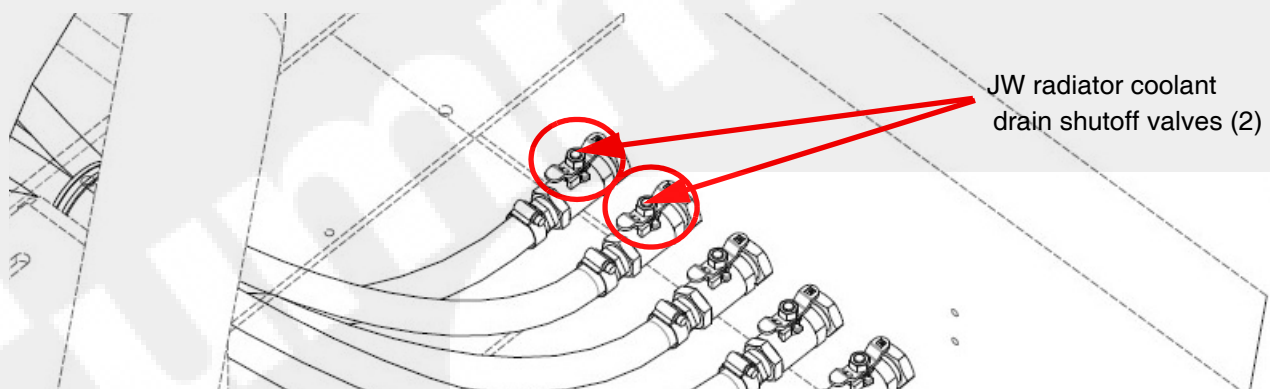

Figure 7-12 GenSet JW radiator coolant drain shut-off valves (GenSet right side)
2. As shown in Figure 7-12, check that the JW radiator coolant drain shut-off valves are closed. Turn the tee handle so that it is perpendicular to the drain line. The JW shut-off valves are located *directly behind the JW drain holes* on the right side of the GenSet.